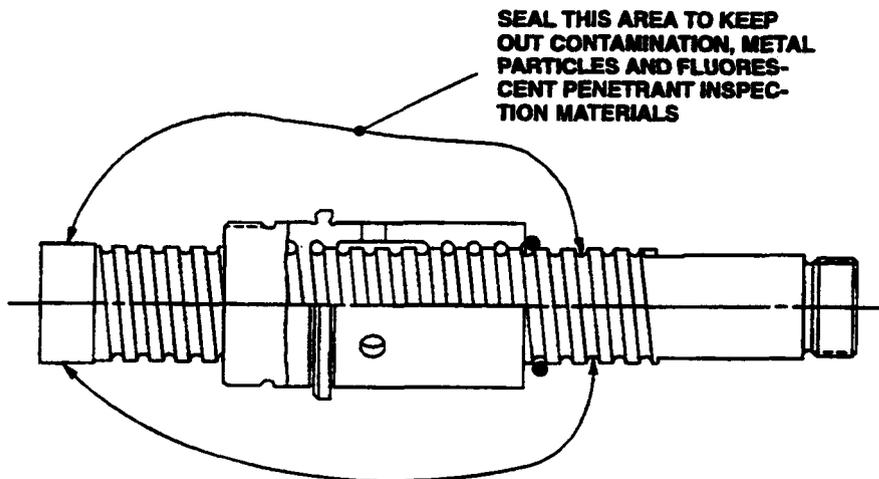

Figure 3. Seal the Servo Ballscrew to Prevent Contamination
- (c) Seal the area of the servo ballscrew, as shown in Figure 3, to prevent contamination during the modification. You can use items such as a plastic bag or shrink tubing to do this. In general, shrink tubing is better.